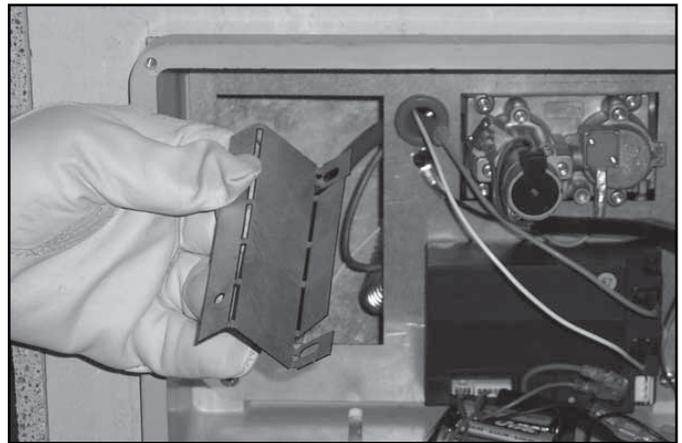

Figure 5.4 Hand-bend Bracket
- Make hand bends to bracket as shown in Figure 5.4: